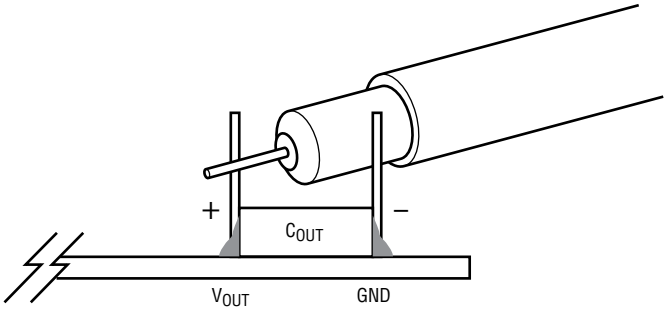

Figure 2. Scope Probe Placement for Measuring Output Voltage Ripple
6. Once the input and output voltages are properly established, adjust the loads within the operating range (0A to 2A Max) and observe the output voltage regulation, output voltage ripple, switch node waveform and other parameters. Refer to Figure 2 for proper output voltage ripple measurement.
NOTE 1: To measure the input/output voltage ripple properly, do not use the long ground lead on the oscilloscope probe. See Figure 2 for the proper scope probe technique. Short, stiff leads need to be soldered to the (+) and (–) terminals of an output capacitor. The probe's ground ring needs to touch the (–) lead and the probe tip needs to touch the (+) lead.